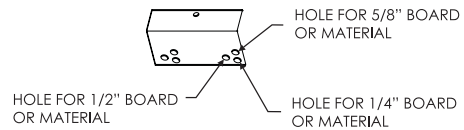
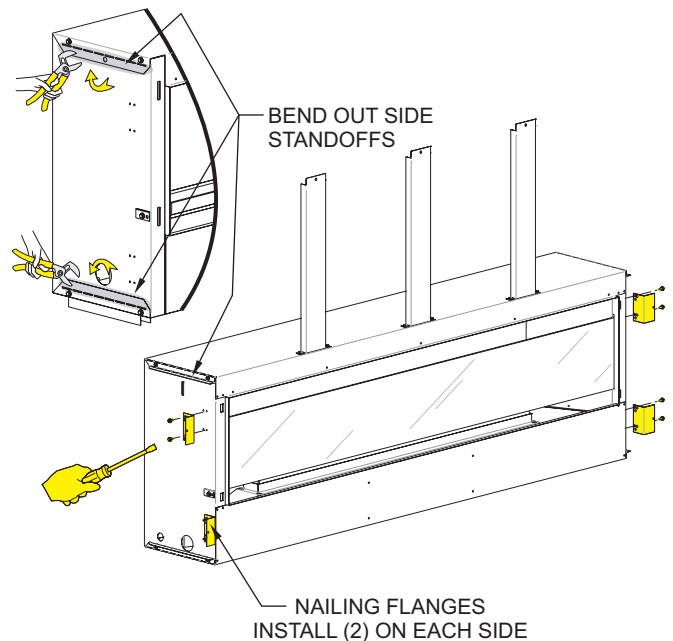

Figure 25
Figure 26
5. Locate nailing flanges in the envelope pack. The holes in the nailing flanges allow different size boards and different locations for the boards. See Figure 25. Bend the brackets at 90° angles. Install four nailing flanges with two 10 x 1/2 screws (each). See Figures 26 and 27. The hole closer to the front edge of the fireplace is for Installation Option 1. The other hole is for Installation Option 2. Notice: The non-combustible board provided is 1/2-inch thick.